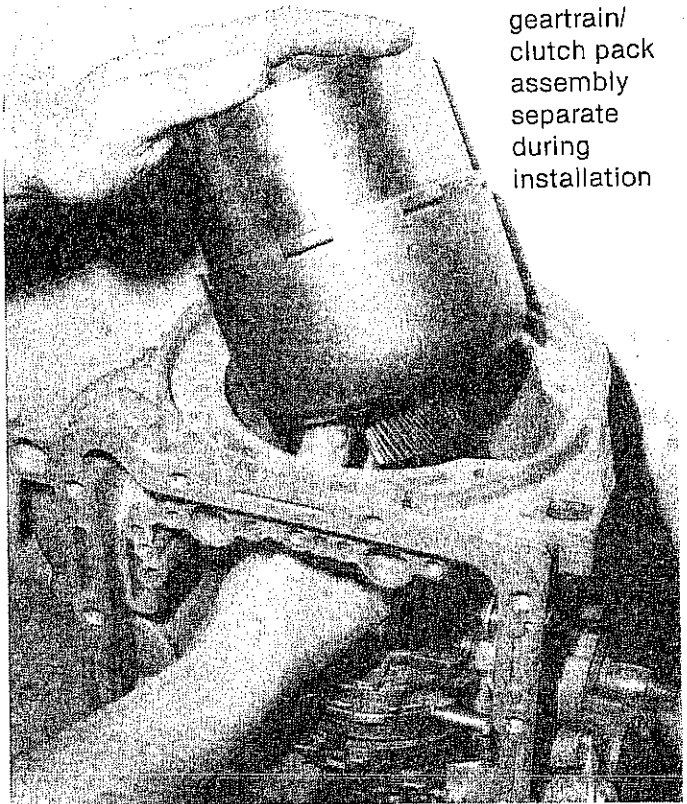

FIGURE 58
STEP 14. Stand transmission up on its output shaft. Lubricate output shaft bushing diameters with automatic transmission fluid. Install geartrain/clutch pack assembly into transmission. (See Fig. 58) Do not let assembly separate during installation or a thrust washer may fall out of position.
STEP 18. Install geartrain/clutch pack assembly into transmission. (See Fig. 58) Do not let assembly separate during installation or a thrust washer may fall out of position. Install special intermediate band supplied with kit.